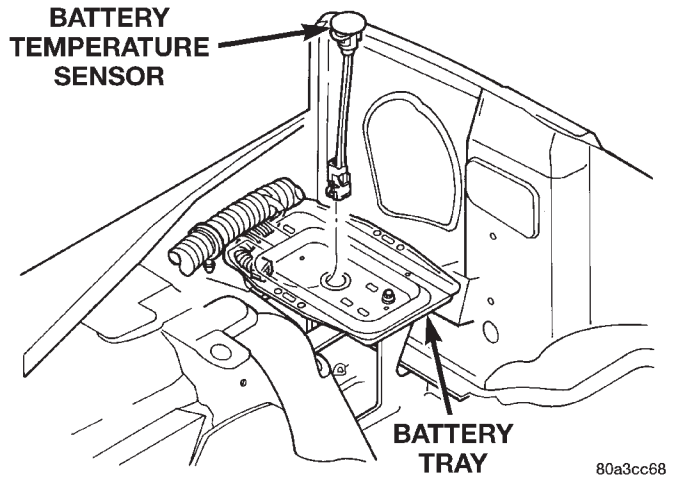

Fig. 3 Battery Temperature Sensor Location
(1) The sensor is located under the battery and is attached to the battery tray (Fig. 3). A two-wire pigtail harness is attached directly to the sensor. The opposite end of this harness connects the sensor to the engine wiring harness.